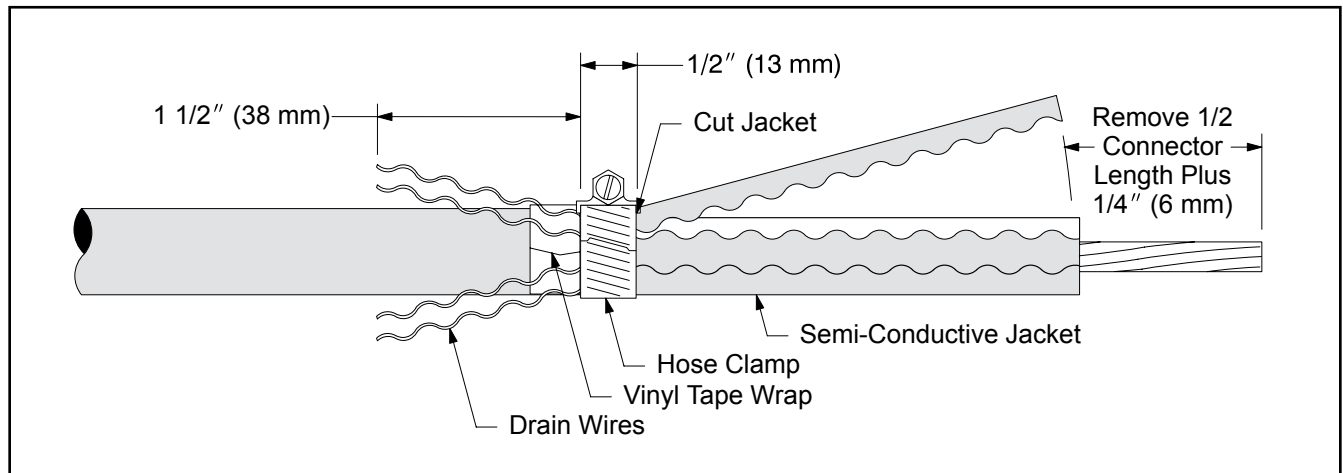

Figure 5
- b. Cut-off shield drain wires to a length of 1 1/2" (38 mm) and fold back onto cable (*Figure 5*).
- c. Install hose clamp and on side of clamp closest to cable end, cut 80% through cable jacket (*Figure 5*).
d. Remove jacket by pulling against hose clamp. **DO NOT BELL SEMI-CON JACKETS** (*Figure 5*).
f. Remove cable insulation from cable end for a distance of 1/2 connector length (*Figure 5*).